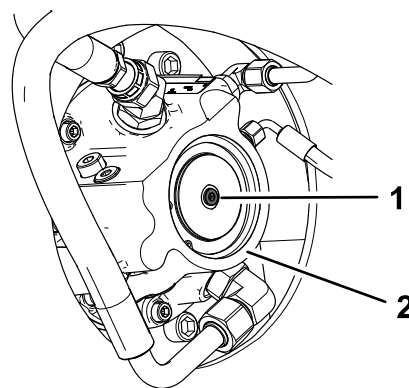

Figure 30
3. For each drive motor, remove the plug and install a screw (M8–1.25 x 40 mm) and washer (M8 x 16 mm) in its place (Figure 30). Hand-tighten the hardware.